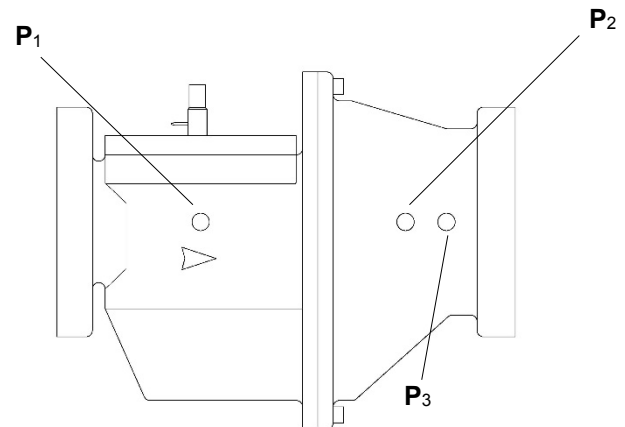

Figure 7: P/T Port Locations
4. If mounting electric or pneumatic actuator, mount so that it strokes to give the control sequence required. The direction of rotation of the valve stem can be either clockwise or counter-clockwise. See Fig. 7.